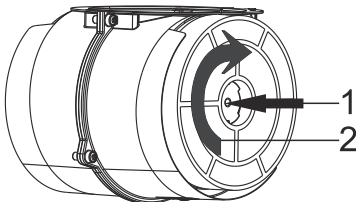

Fig. 5: CARBON FILTER
- 1-Place the carbon filter in its housing.Fig. 5
- 2-Rotate the carbon filter clockwise and make sure that it is seated completely.Fig. 5